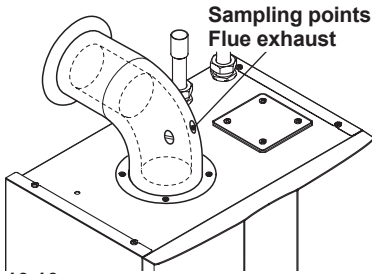

Fig. 10.10
It is recommended that a combustion analysis check is made. Remove the plug as indicated in Fig. 10.10 and carry out combustion analysis check and adjustment if necessary as described in the section Gas valve - Adjustment of the Service manual.
- Check the combustion of the boiler using the outlets located on the flue tubes (Fig. 10.10) and compare the data measured with that following.